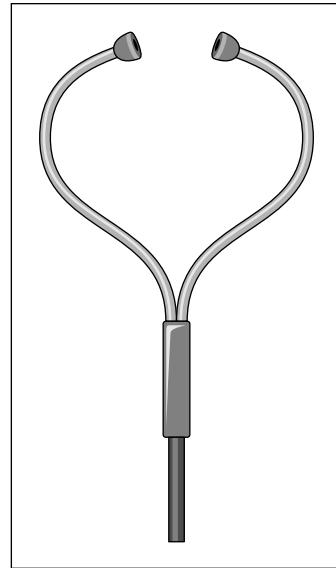

Figure 20-2: A piece of tubing and an old stethoscope make an efficient troubleshooting device.
- ✔ **If you hear a sound but can't locate the source**, get an old stethoscope from a medical supply house or your family doctor. As shown in Figure 20-2, take off the rubber disc and insert a piece of tubing in its place (about 1½ inches will do). Then put the plugs in your ears, run the engine, and move the tube end of the stethoscope around the hood area. The stethoscope amplifies the sound as you near the part that's causing it.